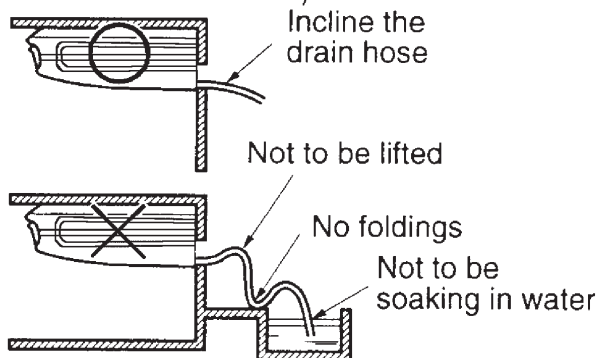

Fig.1
- Keep the drain pipe short and incline downwards at a gradient of at least 1/100 to prevent air pockets. (Refer to Fig.1)
- Use the attached drain hose ④ and clamp ⑤